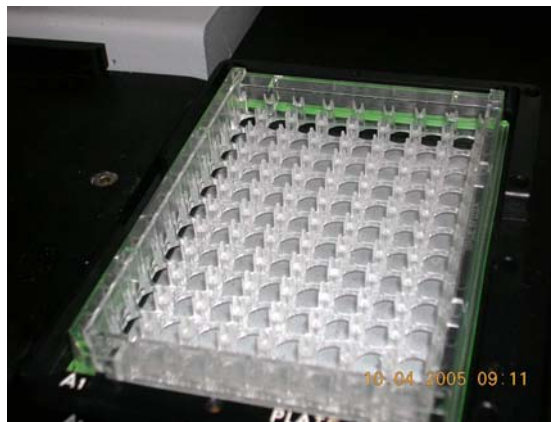

Figure 3
3. Place the taped tray into the Plate A holder of the MAGO® Plus/ APTUS® (see Figure 3) and ensure that it fits securely and does not move. If the tray is still not secure in the holder, apply a second layer of tape to the lower edges of the tray.